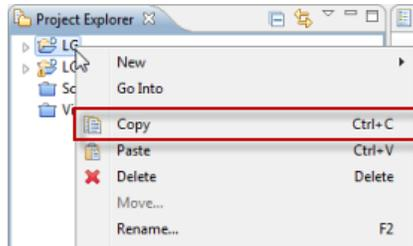

FIG. 18 Project Folder Context Menu
2. Select **Copy** from the Project Folder context menu (FIG. 18):